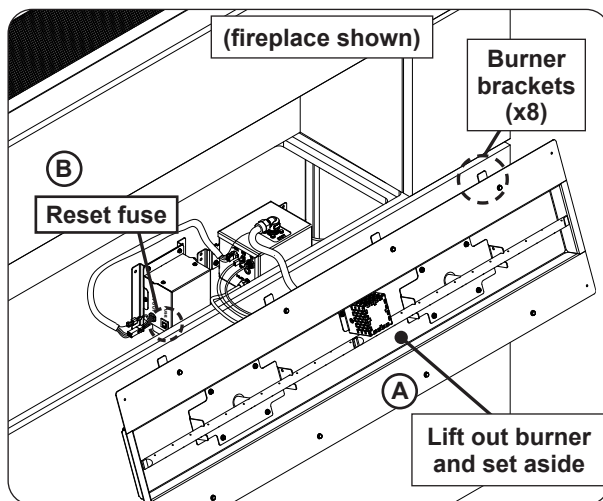
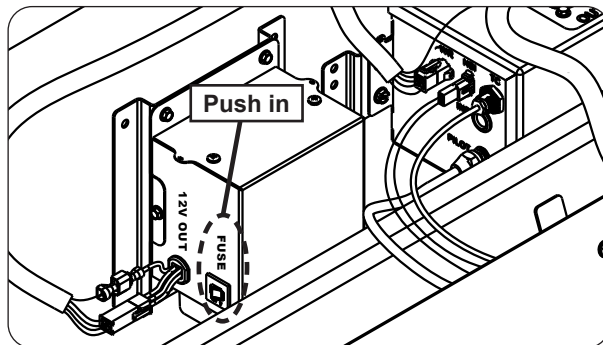

Fig. 41-3 Gain access to interior and reset fuse
Fig. 41-4 Reset fuse detail
2. Remove all media. Use a $\frac{5}{16}$ " nut driver to partially unfasten the 8 screws found on the burner assembly. Then lift out the burner and set it off to the side. See Fig. 41-3, A.
3. Gain access to the valve box and reset the fuse by pushing it in (see Fig. 41-3,B and Fig. 41-4).